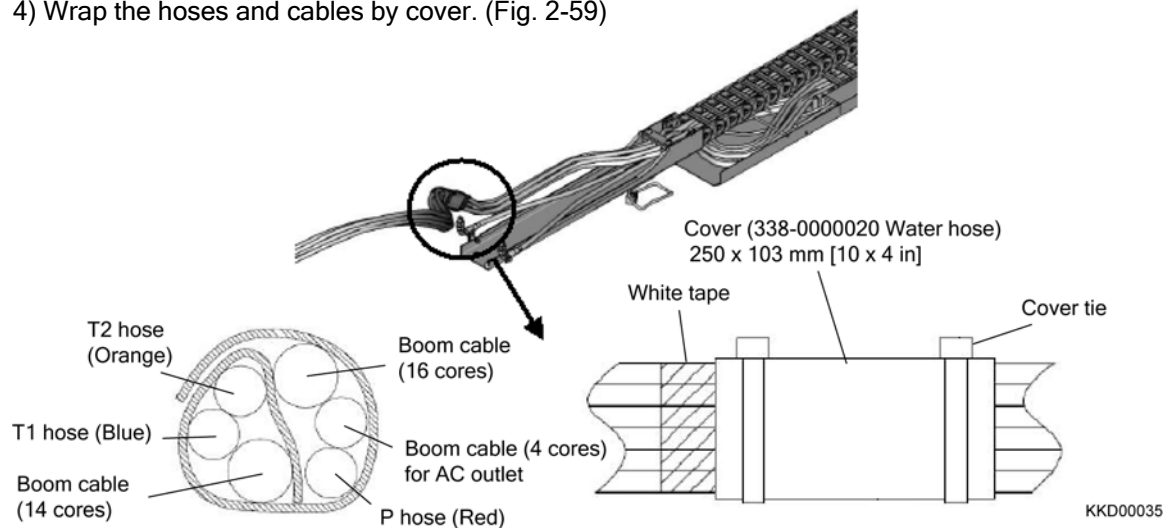

Fig. 2-59
4) Wrap the hoses and cables by cover. (Fig. 2-59)